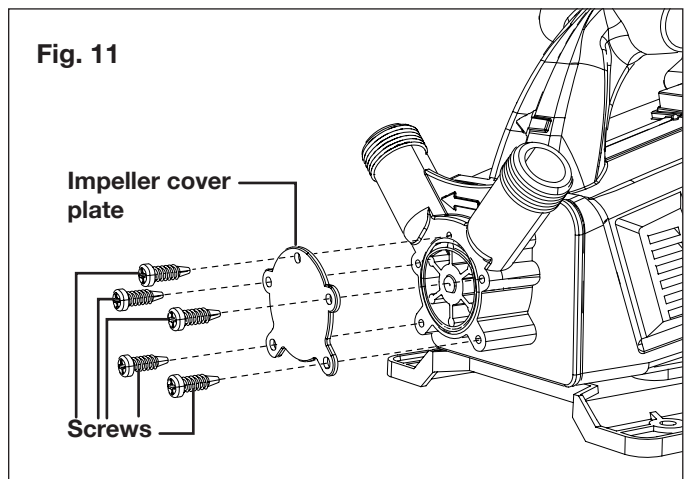

Fig. 11
2. Using a screwdriver, remove the 5 screws that used to fix the impeller cover plate (Fig. 11).